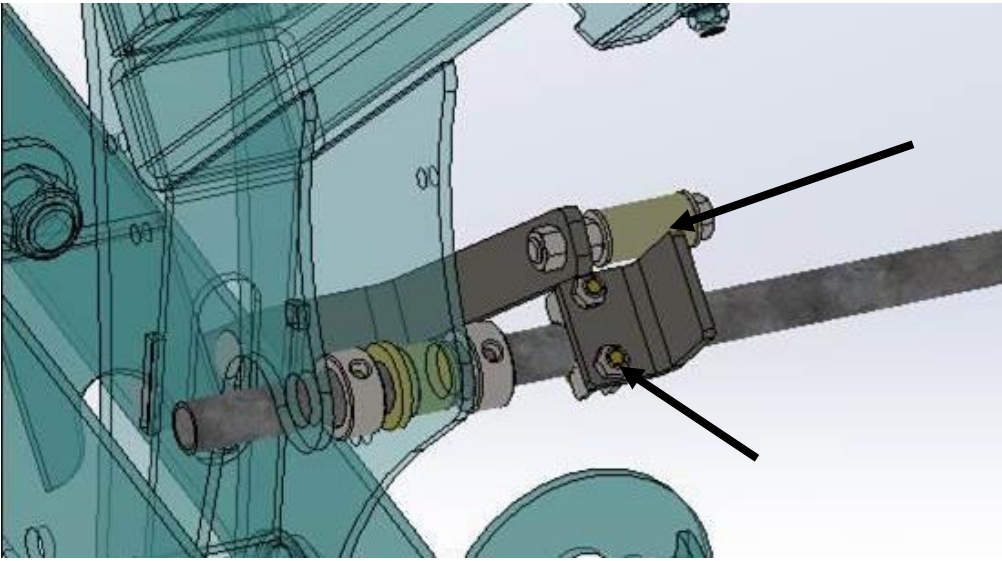

Figure 6
- Roll the activation tab forward until it touches the roller and tighten the U-bolt nuts (must have 3-4 U-bolt threads showing past the top of each C-lock nuts Figure 6). **Note: Make certain that all the tabs are set as close to the center of the roller as possible before the clamp nuts are tightened.**